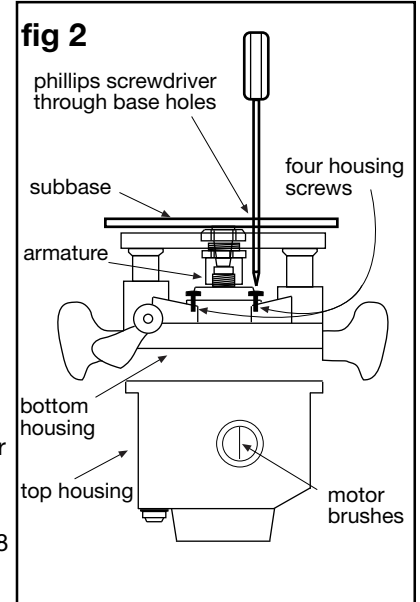
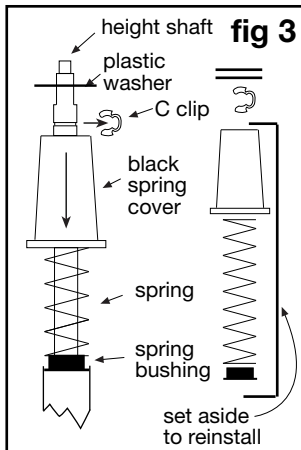
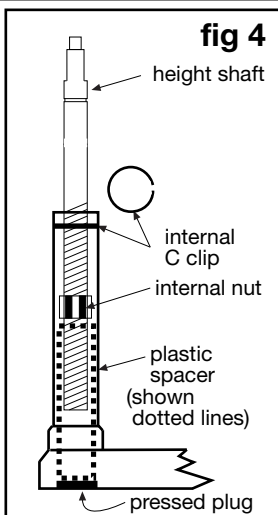

fig 2
fig 3
fig 4
- 4. Rapid collar positioning:** The rapid collar is for hand held use only, for router table use position collar against retainer clips and top drive (fig 2). Secure with #24 thumb screw or optional #25 black set screw.
- (fig 2) Illustrates compressing the plunge router with rapid collar locked in the router table position. Insert #29 speed wrench into #26 top drive, or lay router on its side and insert #29 speed wrench into bottom of #1 mainshaft. Rotating the speed wrench will thread #21 lead screw in or out of the drive nut, compressing and un compressing the router.
- (fig 3) Illustrates compressing the plunge router with the rapid collar. Thread #21 lead screw into the drive nut leaving approx 1/2" exposed threads, the router will be un compressed. Secure desired router bit in collet, stand router upright hand plunge to approx desired depth lock plunge lock lever. Release #24 thumb screw and drop rapid collar into contact with #21 lead screw. secure thumb screw and release plunge lock lever. Insert #29 speed wrench into #26 top drive, or lay router on its side and insert #29 speed wrench into bottom of #1 mainshaft and adjust to required depth. Re lock plunge lock before routing. When done release thumb screw and router will quickly return to the un compressed position for easier bit removal.
2. Remove four screws securing lower motor housing (fig 2). Secure the power switch in the on position by wrapping it with tape or a plastic tie strap, to hold it in position when the router is separated. Separate the upper and lower case halves by pulling them apart. No loose parts will fall out., the armature will remain in the bottom housing.
3. Remove subbase (fig 2). Stand bottom housing upright, Using (fig 3) press down black spring cover and remove C clip. Remove black spring cover, spring, and spring bushing. Using a small screwdriver remove internal C clip (fig 4) **NOTE: unthreading height shaft from internal nut improves C clip removal.** Remove internal nut. The pressed plug and plastic spacer in bottom of post must be removed. Place height rod into post, tap with hammer to remove plug. Store plug, plastic spacer, internal nut & height rod, internal C clip, external C clip washers & height knob.
4. Using (fig 3) Remove black spring cover and top spring from the bottom housing. Select 1/2" drill bit and drill. Using fig's (1 & 5) Enlarge height shaft hole in top motor housing and hole in the black spring cover both to 1/2". Select #19 short drive nut #18 drive nut washer #40 housing bushing. Using fig (5) The black spring cover will be secured to the inside of top housing with #40, #18 and #19. Drop #40 housing bushing, threads up onto #1 mainshaft. Using mainshaft as installation tool only, feed small end of mainshaft into bottom of black spring cover
- Remove four screws securing bottom motor housing (fig 2). Separate the bottom and top housings by pulling them apart. No loose parts will fall out, the armature will remain in the bottom housing. Retighten step 3 stop bar knob to retain its clamp during install.
- Using (fig 3) Remove black spring cover and top spring from the bottom housing. Select 1/2" drill bit and drill. Using fig's (1 & 5) Enlarge height shaft hole in top motor housing and hole in the black spring cover both to 1/2". Select #19 short drive nut #18 drive nut washer #40 housing bushing. Using fig (5) The black spring cover will be secured to the inside of top housing with #40, #18 and #19. Drop #40 housing bushing, threads up onto #1 mainshaft. Using mainshaft as installation tool only, feed small end of mainshaft into bottom of black spring cover up through enlarged 1/2" hole. Feed mainshaft up through 1/2" hole in top motor housing, pull mainshaft
- Select the bottom motor housing. Remove subbase (fig 2), and long spring, Stand bottom housing upright, Using (fig 4) The height shaft assembly is retained in the post with a small top internal C clip. Remove the clip using C clip pliers or by driving it down and sideways with a punch or screwdriver and hammer. Once the clip is sideways simply pry it out with the screwdriver